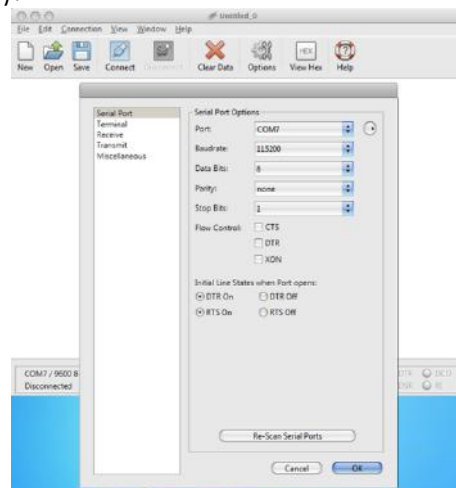

Figure 2
- 1) In the "Coolterm"© application supplied with the TCS II.1, in the Option> Serial Port menu, select the serial port and com number proposed by the application. The communication speed should be 115,200 baud (Figure 2).